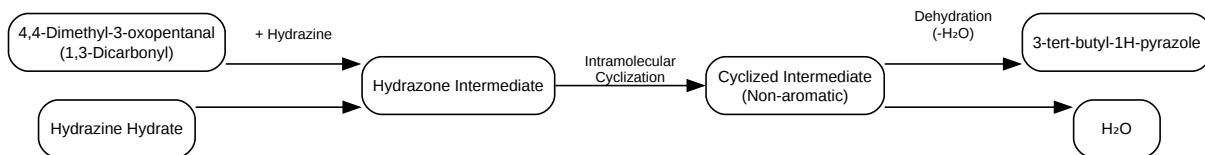

Fig. 1: Knorr Pyrazole Synthesis Mechanism
Caption: Fig. 1: Knorr Pyrazole Synthesis Mechanism
- Hydrazone Intermediate: The most common intermediate is the uncyclized hydrazone (see Fig. 1). This species will have a different polarity than the starting material and the final pyrazole product and will appear as a distinct spot. Kinetic studies have shown that intermediates can be observed, especially in the early stages of the reaction.[2]